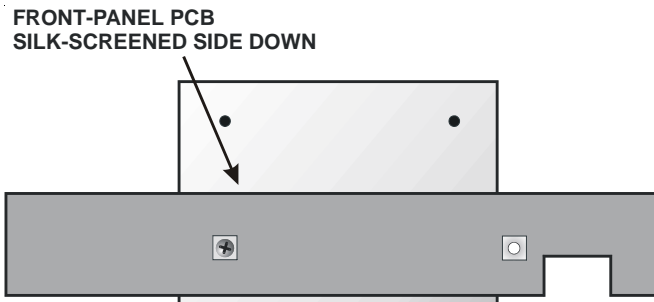

Figure 4. Preparing Front Panel PCB to Install Light Bar.
- Place the front panel PCB on top of the heat spreader with the silk-screened side down as shown in Figure 4. Temporarily attach the PCB to the heat spreader with a single 3/16" (4.8 mm) pan-head screw.